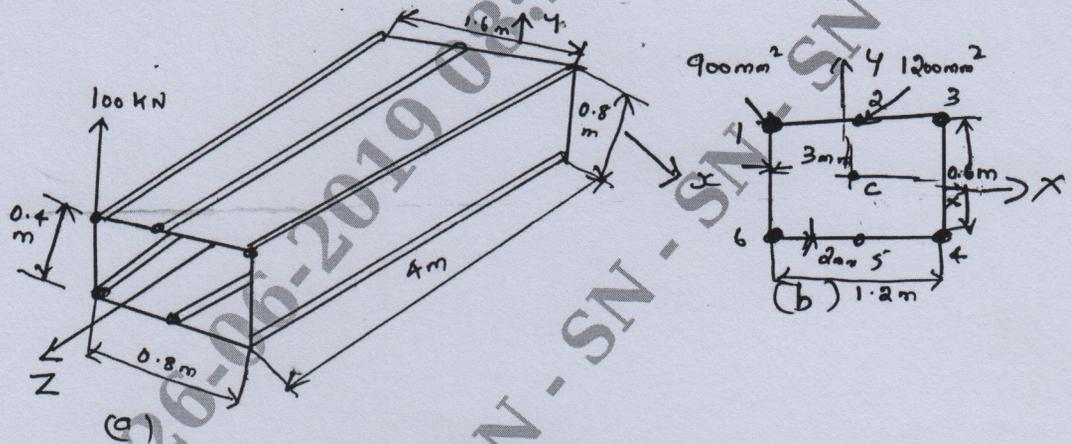

Fig.Q8
- 8 The cantilever beam shown in Fig.Q8 is uniformly tapered along its length in both x and y directions and carries a load of 100 kN at its free end. Calculate the forces in the booms and shear flow distribution in the walls at a section 2 m from the built in end if the booms resist all the direct stresses while the walls are effective only in shear. Each corner both has a cross sectional area of 900 mm² while both central booms have cross sectional areas of 1,200 mm². (16 Marks)